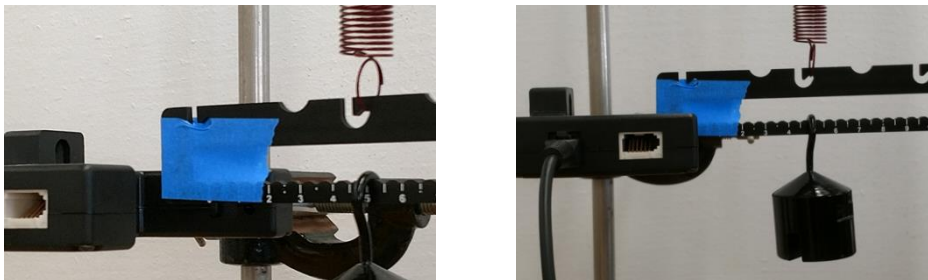

Figure 5 – Photogate positioning for dynamic measurement
- 1) Adjust the photogate to the correct location for your mass as shown in Figure 5 where it is a few millimeters below the taped side of the photogate with the following steps: